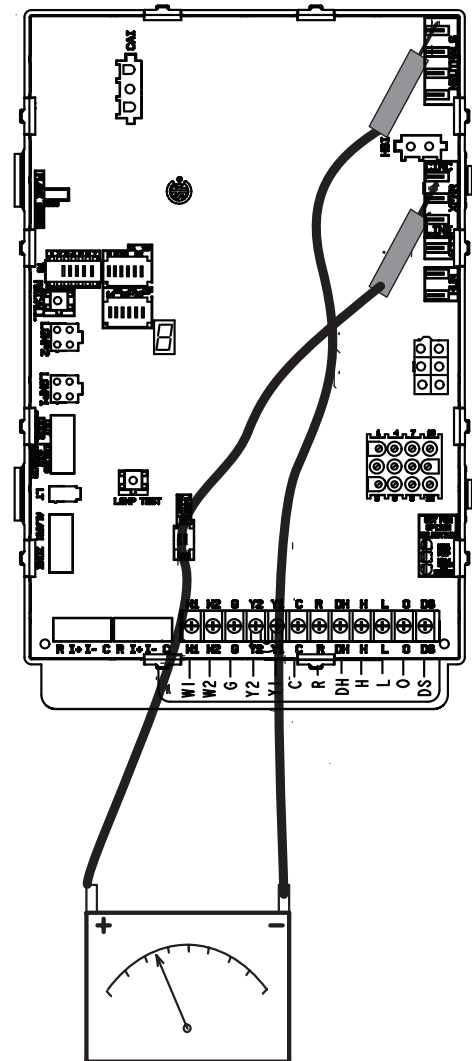

FIGURE 56
- 1 - Measure the AC voltage between Line Neutral (spade terminals) and "C" terminal (low voltage terminal block) on the integrated control. See FIGURE 56. A wide variation in the voltage between Line Neutral and "C" as a function of load indicates a poor or partial ground. Compare the readings to TABLE 40. If the readings exceed the maximum shown in the table, make repairs before operating the furnace.
- 2 - In addition, measure the AC voltage from Line Hot to Line Neutral (spade terminals) on the integrated control. See FIGURE 56. This voltage should be in the range of 97 to 132 Vac.